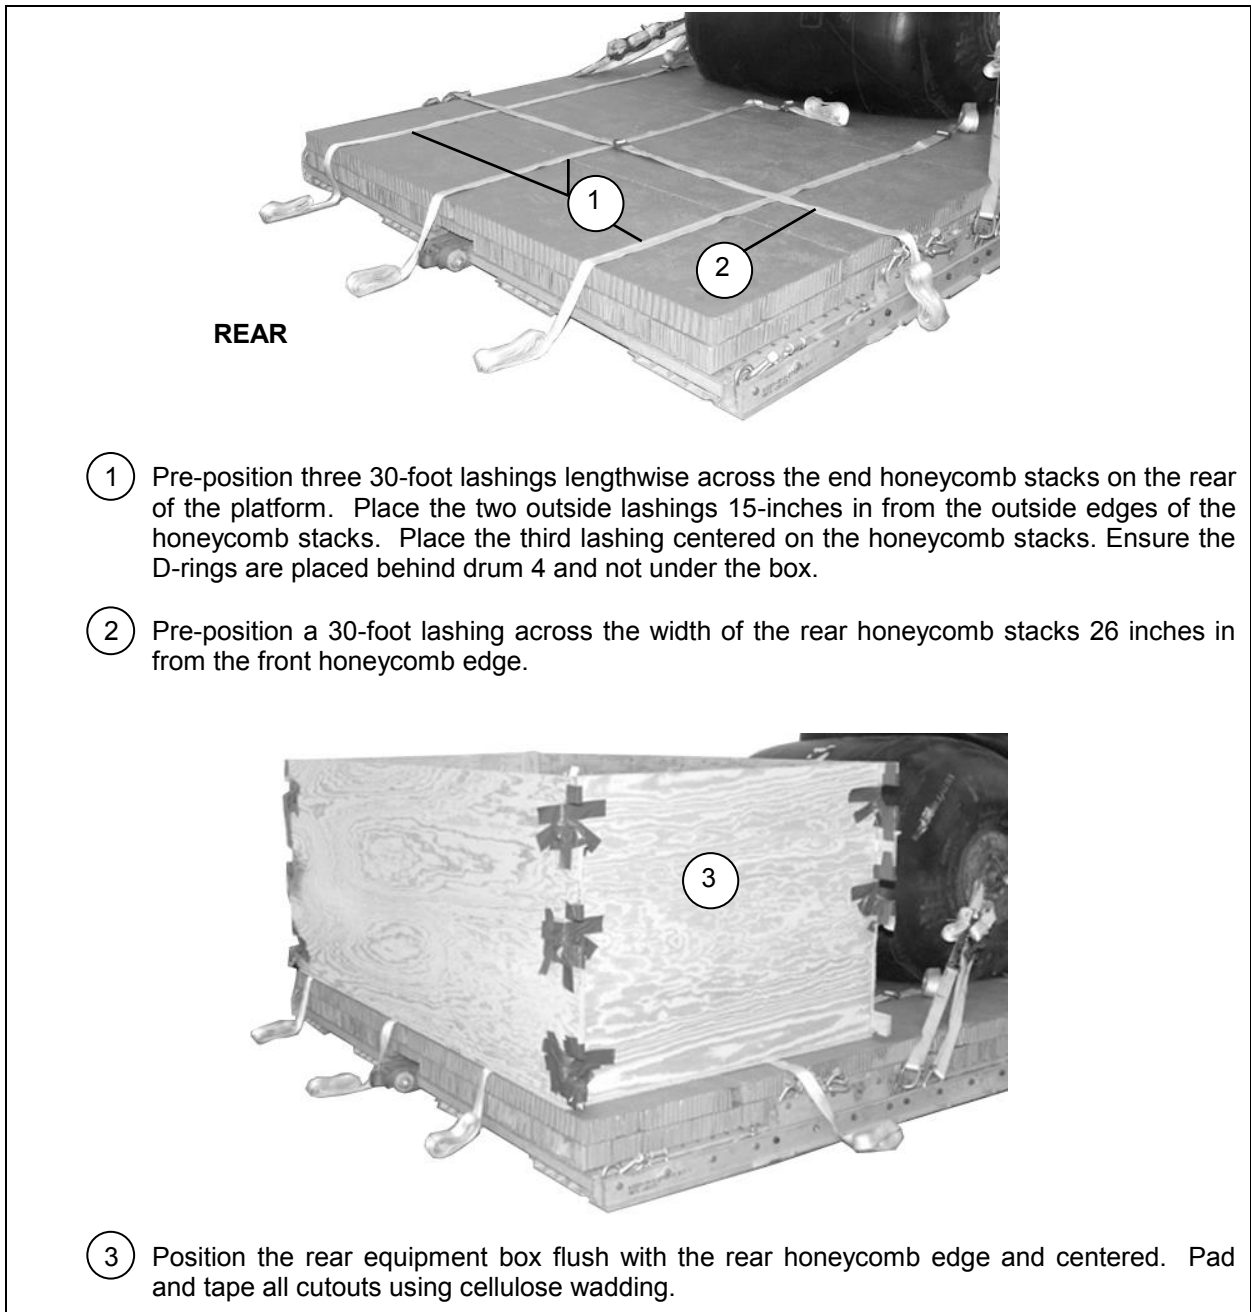

Figure 23-20. Rear Equipment Box Positioned
- Prepare and position the rear equipment box as shown in Figure 23-20.